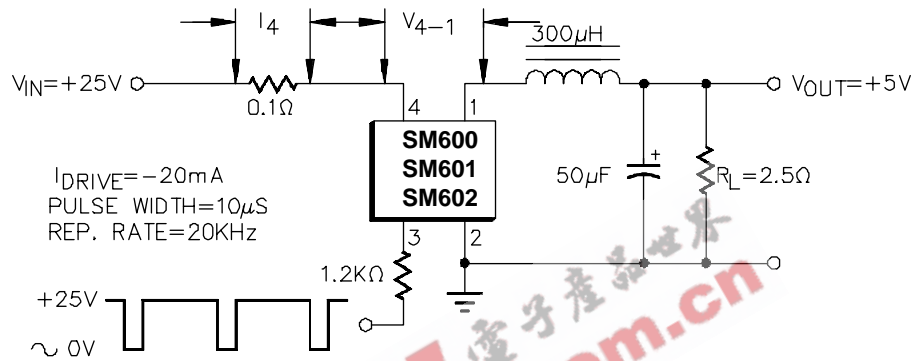

FIGURE 1 - SM600/601/602 SWITCHING SPEED CIRCUIT
Dynamic Characteristics (See Figures 1 & 2) (Notes 4 & 5)
- Note 5. The efficiency is a measure of internal power losses and is equal to Output Power divided by Input Power. The switching speed circuit of Figure 1, in which the efficiency measured, is representative of typical operating conditions for the SM600 series switching regulators.